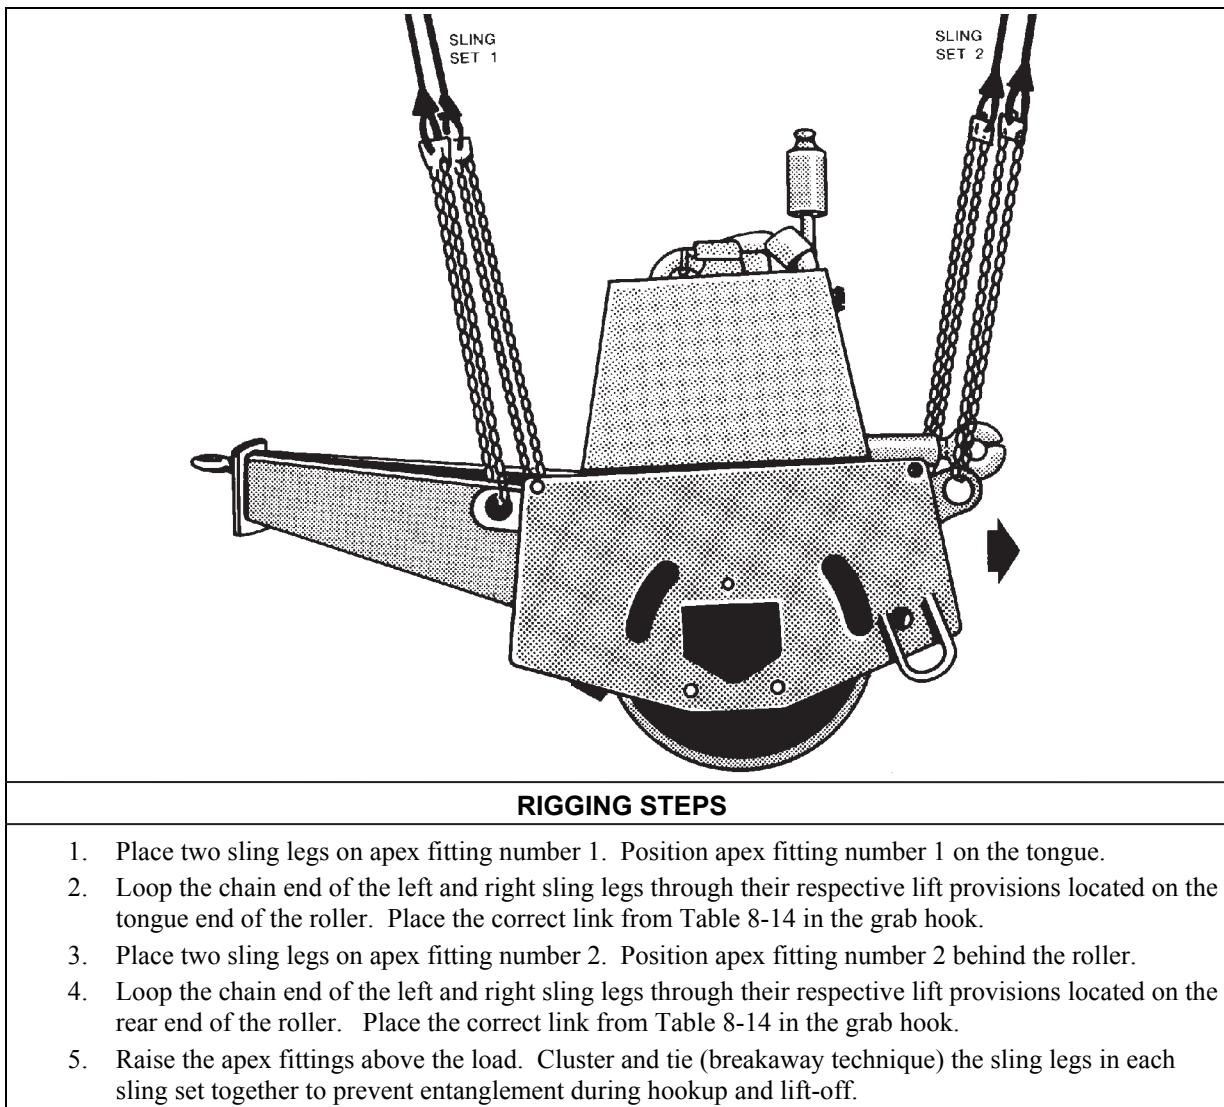

Figure 8-14. Roller, Towed, Vibrating
- **Rigging.** Rig the load according to the steps in Figure 8-14.